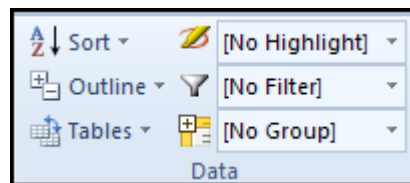

Figure 4-1: Data Group View Ribbon
- i. Creating a new filter is managed from the, More Filters command this is located in the Filter drop down box in the data group of the view ribbon. This will display a dialog box very similar to that for define tables (Figure 4-1).